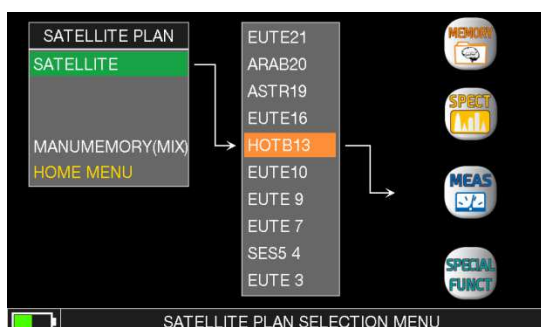
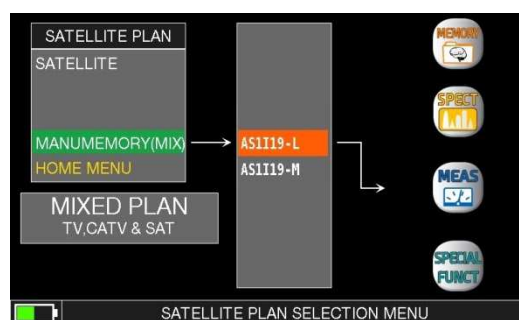

Fig.1 List of prememorized programme files. These cannot be edited on the meter but only on a PC with the SMART programme.
Fig. 2 List of user generated programme files. These can be created on the meter or on a PC with the SMART programme.
A logger is run against a MEMORY plan. A Memory plan is a file which contains a given number of programmes. These programmes may be transponders, TV MUXes or a combination of both. There are memory plans which are pre-memorized in your meter (ref. fig.1), these are the Satellite transponders, one file for every orbital position. There can be also MANUAL memory plans (ref. fig.2), which are defined by the user with any type of signal. A MANUAL memory plan can have SAT and TV programmes in the same file. The manual programme files may be generated on the meter itself or uploaded to the meter using the Rover SMART programme (ref. [www.roverinstruments.com](http://www.roverinstruments.com), SW update area).
Upload to your meter the “chn” memory plan available for the HD TAB 700 in the Rover web site section SW Update. There are two Memory plan files (CHN). The first one contains all transponders sorted by Polarization (H and V), this ease measurements when aligning a dish with a Wide Band LNB, there are two cables coming from an LNB, with one polarization each (Horizontal and Vertical). After uploading this file to your meter, it will show, in its name, an “L” as a suffix, that stands for LNB (Ref. fig.2).
The second chn file has all transponders sorted by frequency, this ease measurements when using a dCSS or dSCR Multiswitch output. After uploading to your meter, this Manual channel plan will show, in its name, an “M” as a suffix, that stands for Multiswitch (Ref. Fig. 2).
- Press the **PLAN** key and select one of the “chn” PLANs mentioned above, ref. fig. 2.